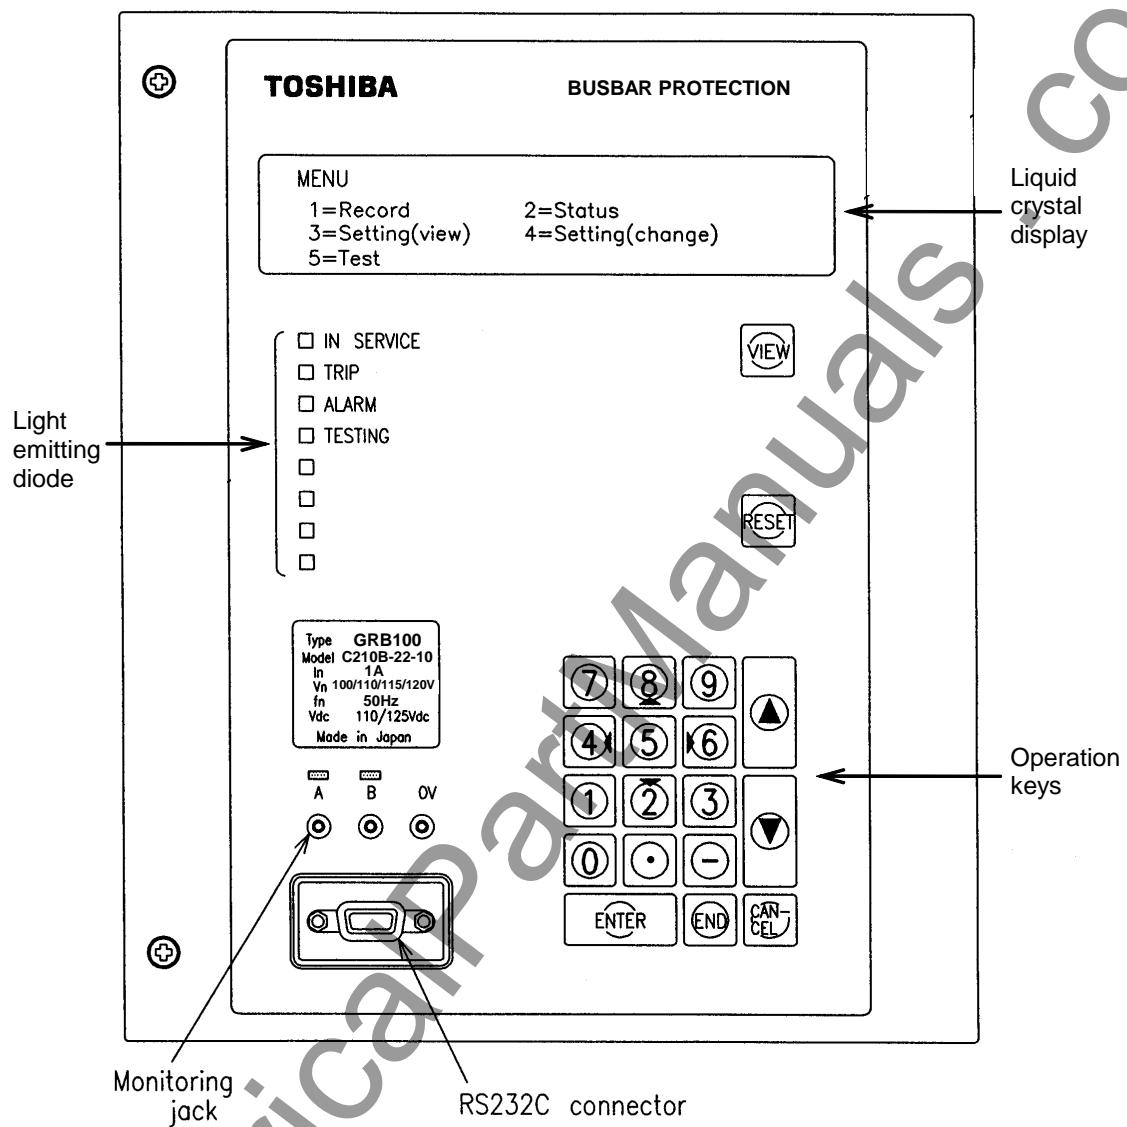

Figure 3.1.8 HMI of CU (Front Panel)
The operator can access the GRB100 via the human machine interface (HMI) module of the central unit (CU). As shown in Figure 3.1.8, the HMI module has a liquid crystal display (LCD), light emitting diodes (LED), view and reset keys, operation keys, testing jacks and an RS232C connector on the front panel.